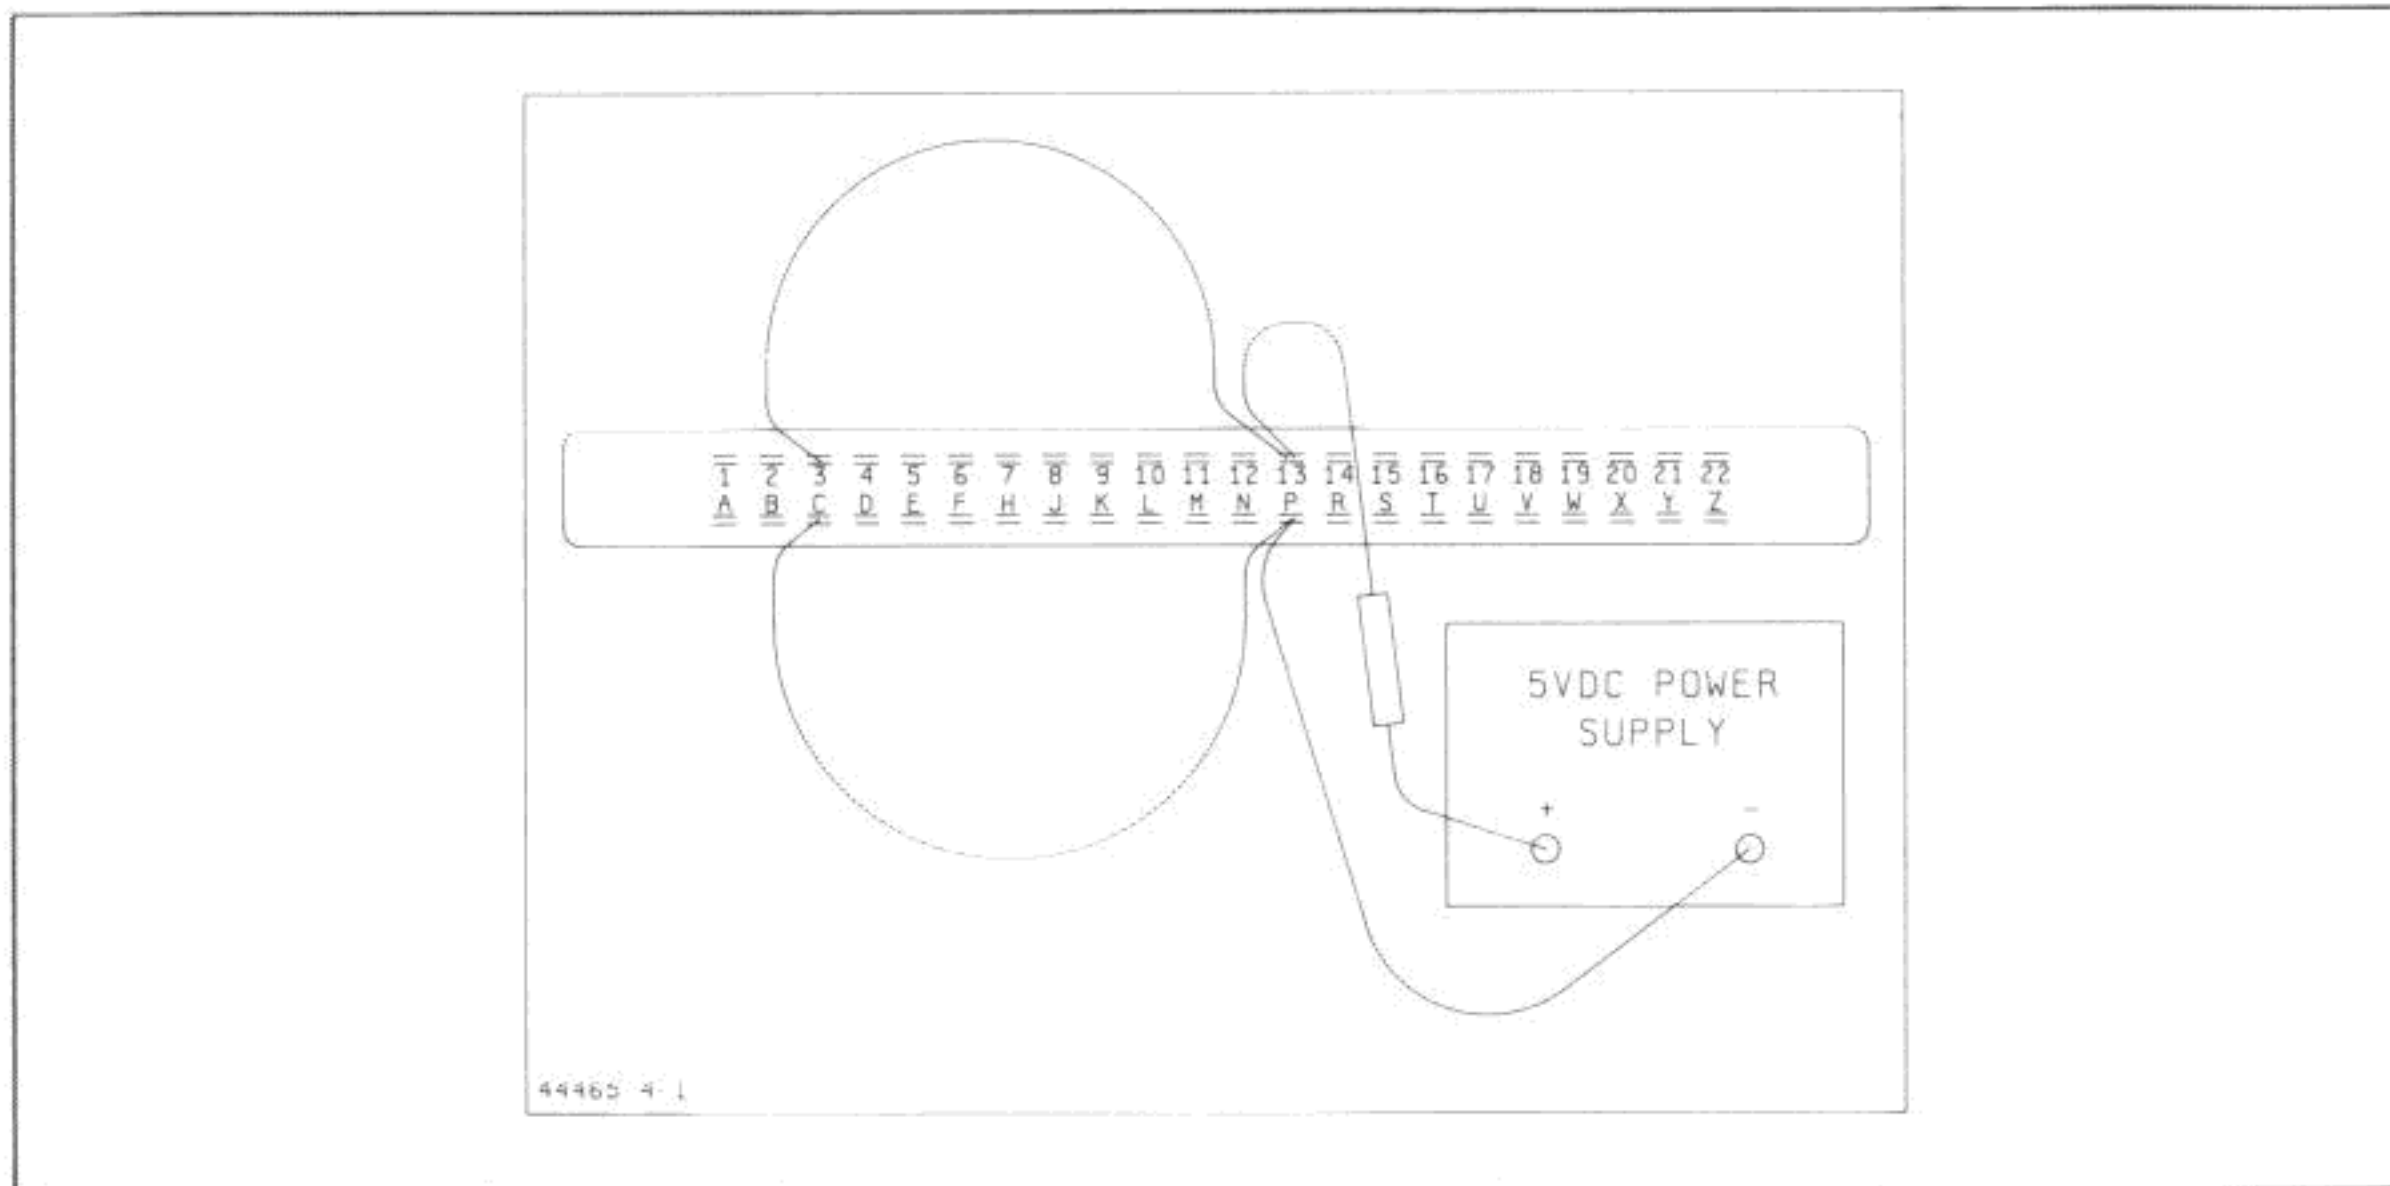

Figure 3-4-1. Configuring the Terminal Edge Connector
e. Refer to Figure 3-4-1 and use cliplead jumpers to configure the terminal block edge connector as follows: